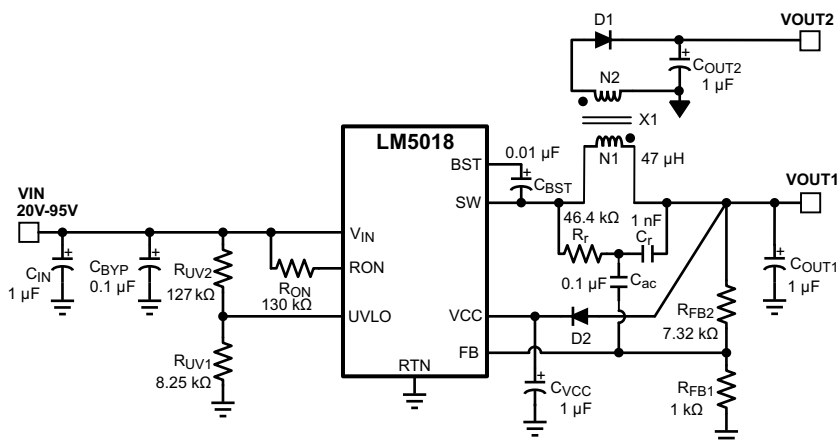

Figure 17. Isolated Fly-Buck™ Converter Using LM5018
An isolated supply using LM5018 is shown in Figure 17. Inductor (L) in a typical buck circuit is replaced with a coupled inductor (X1). A diode (D1) is used to rectify the voltage on a secondary output. The nominal voltage at the secondary output ( $V_{OUT2}$ ) is given by Equation 20.